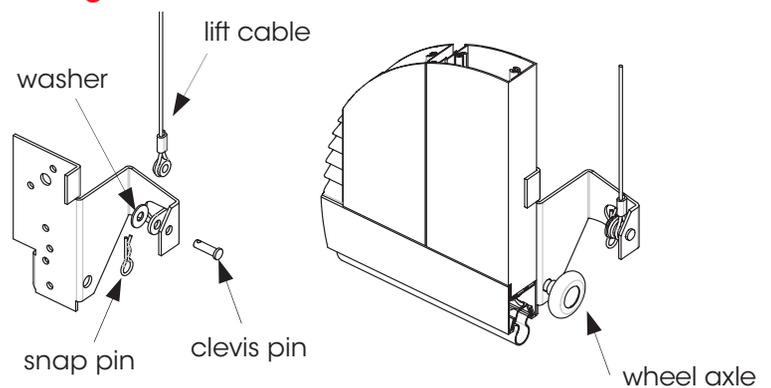

Fig: 5.3.2
- Attach the lift cable to the bottom hanger using a clevis pin, washer and snap pin. Fig 5.3.2
- Insert the wheel axle through the bottom hanger and bottom panel bracket. Fig 5.3.2.